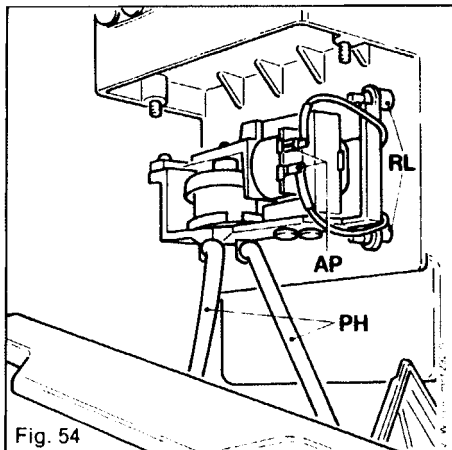

Fig. 54
14.6.6 Change of diaphragm pump (Fig. 54)